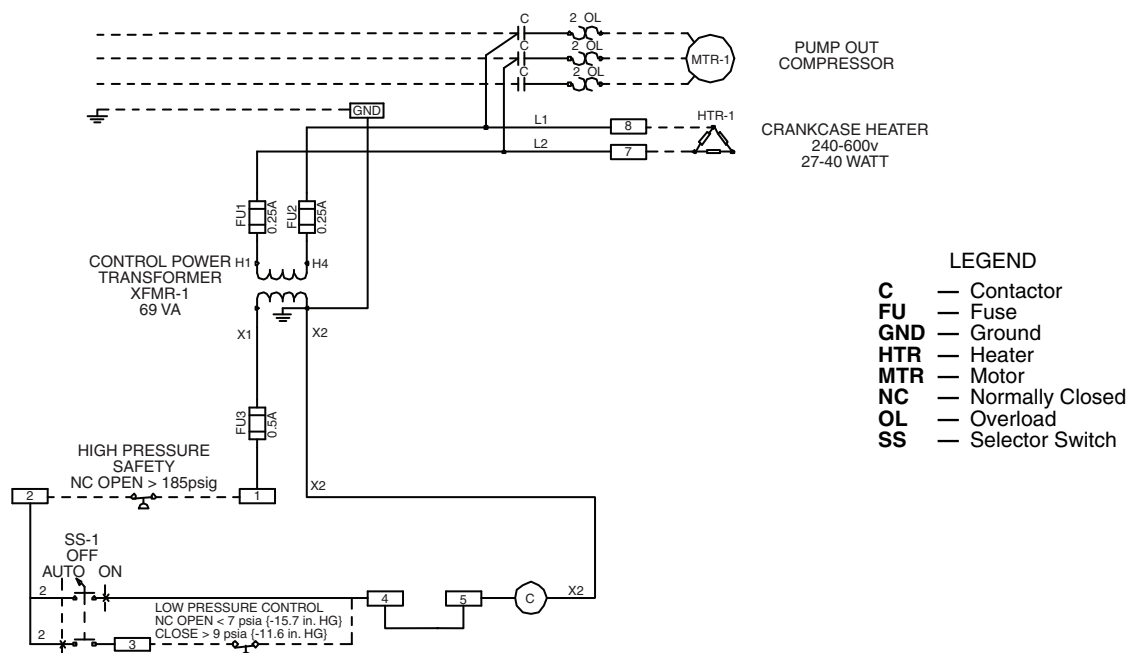

Fig. 52 — 23XRV Pumpout Unit Wiring Schematic
4. Oil should be visible in the pumpout unit compressor sight glass under all operating conditions and during shutdown. If oil is low, add oil as described under Optional Pumpout System Maintenance section, page 99. The pumpout unit control wiring schematic is detailed in Fig. 52.